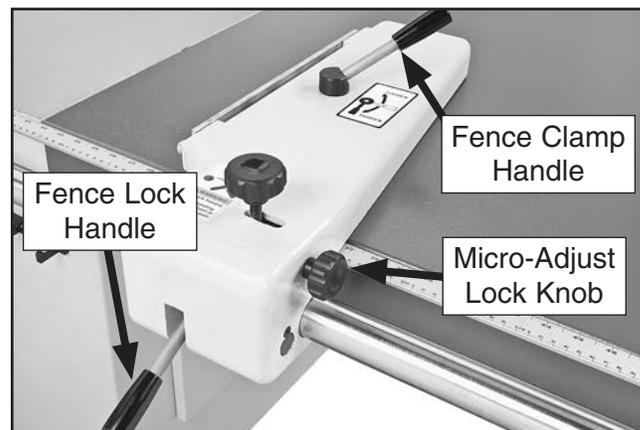

Figure 32. Rip fence body assembly installed.
34. Slide the rip fence body assembly onto the rip fence rail, then install the two handles and one knob, as shown in **Figure 32**.